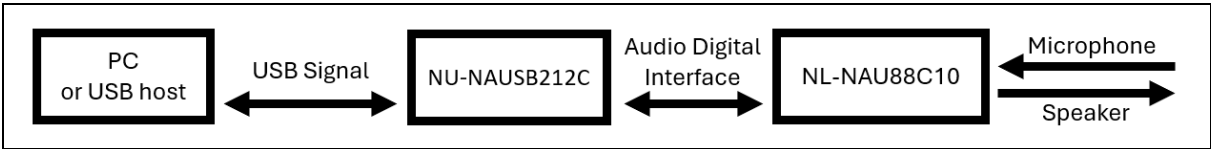

Figure 2-5 Signal Path of NU-NAUSB2I2C and NL-NAU88C10
3. CN2 of NU-NAUSB2I2C uses USB Cable to connect to a PC under Windows system. (If possible, please do not connect to the PC through USB HUB). Figure 2-5 shows the audio signal path after the two boards are connected to each other.